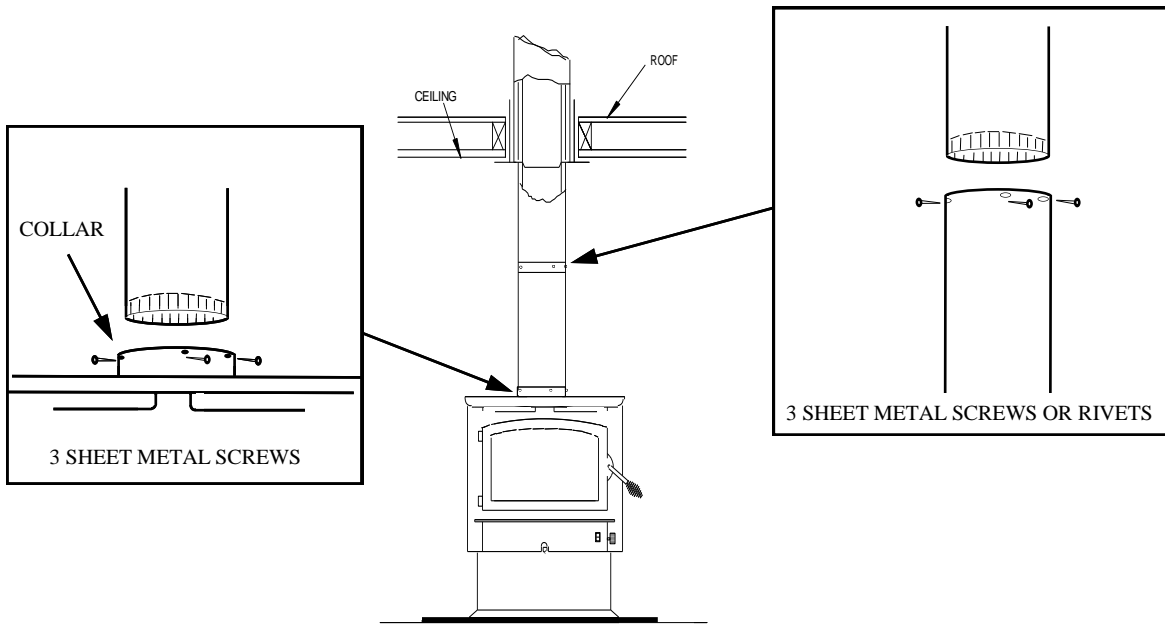

Figure 5
Now connect stove and ceiling support box using #24 ga. minimum blue or black steel connector pipe (**DO NOT USE GALVANIZED PIPE**). Connect each section so crimped end faces downward and secure each section to each other using at least three (3) sheet metal screws or rivets. Also use three (3) sheet metal screws to fasten pipe to collar on heater. (See Figure 5. Page 15).
5. Connect chimney connector to tee-box using #24 ga. minimum blue or black steel connector pipe. **DO NOT** use galvanized pipe. Connect each section so the crimped end faces downward and secure each section to each other using three (3) sheet metal screws or rivets. (See Figure 5).